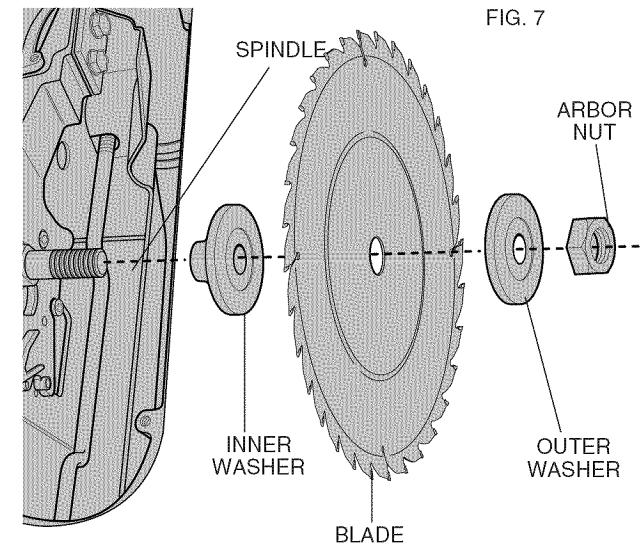

FIG. 7
3. Place the saw blade on to the spindle making sure the teeth of the blade point down at the front of the table. Assemble the washers and arbor nut to the spindle and tighten arbor nut as far as possible by hand, making sure that the saw blade is against the inner washer and the large washer diameters are against the blade. Ensure the side of outer washer marked "Blade Side" is against the blade (see Figure 7). Ensure the spindle and washers are free from dust and debris.